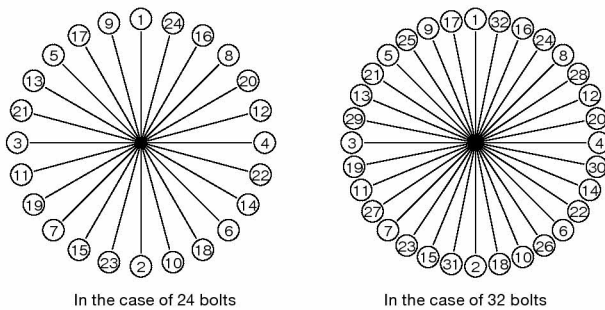

Figure 1: Example of bolt tightening sequence
- (1) Install and align the ring with the required rotational accuracy.
- (2) Place model RW onto the housing. Align model RW with the mounting holes.
- (3) Insert the securing bolts into the holes. Turn the bolts by hand to make sure they do not show skewing which indicates misalignment of the holes.
- (4) Fasten the mounting bolts in three to four steps from loose to fully fastened. Secure the bolts in a diagonal order. (Figure 1)
- (5) When tightening the securing bolts, use a torque wrench and evenly tighten the bolts according to the values in Table 13.